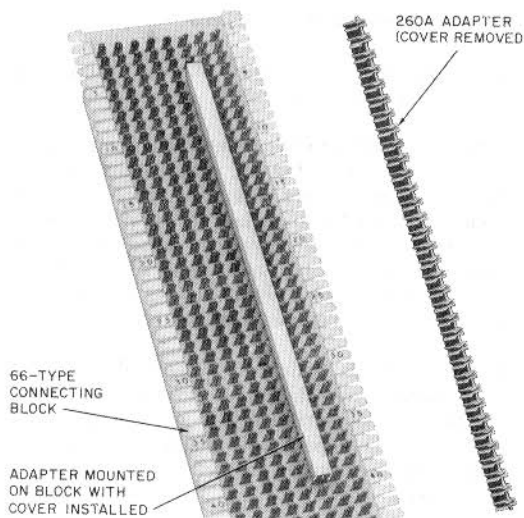

Fig. 16—260A Adapter Installed on 66-Type Connecting Block
**4.07** The 260A adapter (Fig. 16) consists of 50 clips wired together in a vertical column and protected with a plastic cover. It is used to strap together up to 50 adjacent terminals in a vertical column on a 66-type block.